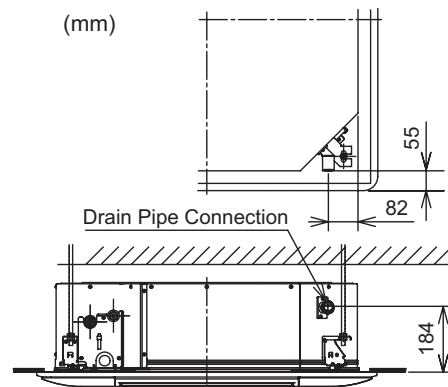

Fig. 6.1 Position of Drain Pipe Connection
- (1) The position of the drain pipe connection is shown in Fig. 6.1.